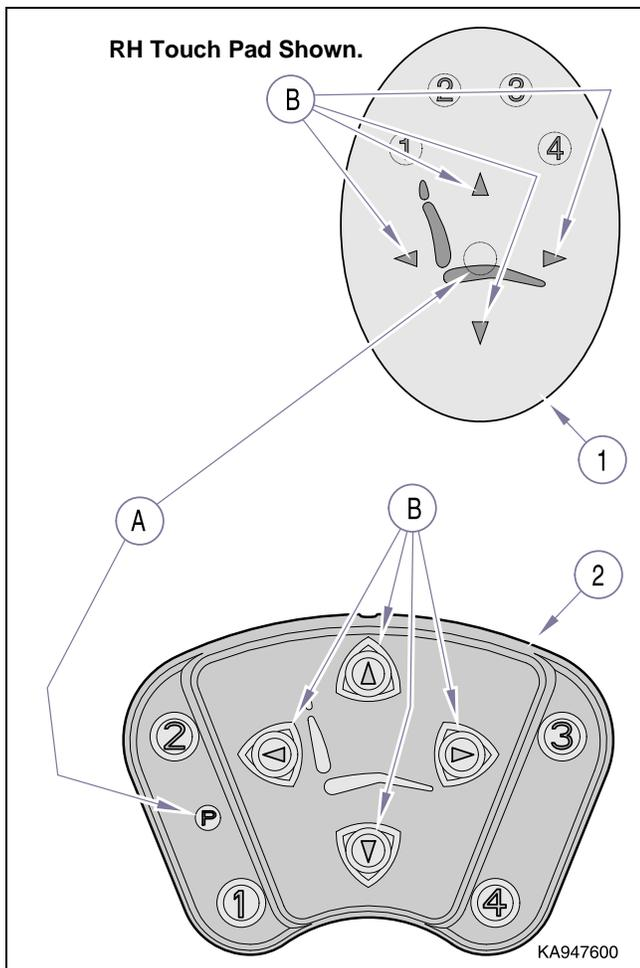

Figure 4-28. Manual Override
- (1) Using touchpad (1, Figure 4-28) or foot control (2), depress and hold PROGRAM button (A) and then depress desired manual positioning button(s)(B)(CHAIR BACK DOWN, CHAIR BACK UP, CHAIR SEAT DOWN, or CHAIR BACK UP) until desired position is achieved.